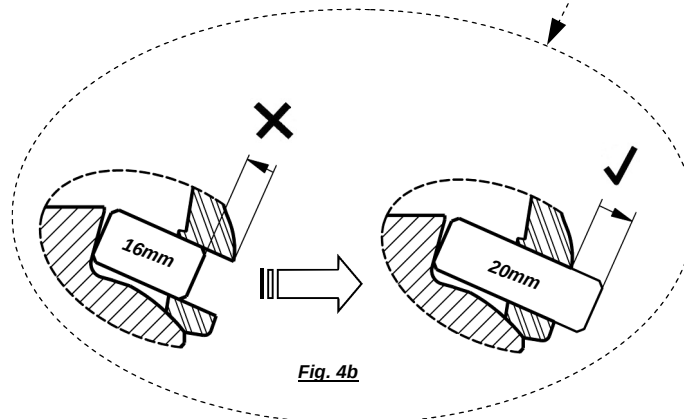

Fig. 4b
- If one of the screws is too short, replace it by one of the 20 mm long screws included in the pack (fig. 4b)
(**) => Verwendung: >Siehe Abb.4b